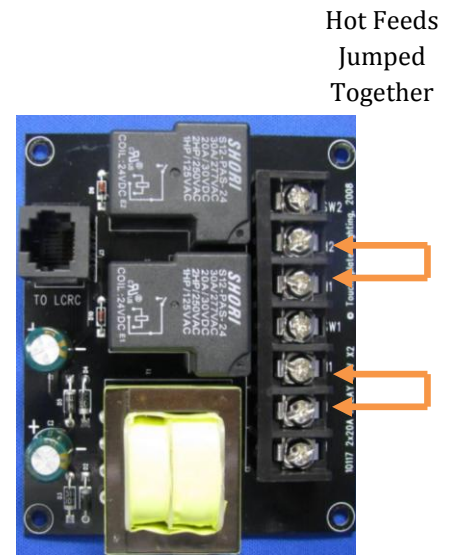

Figure 6.3
Figure 6.3 shows a 10117 Relay Board. The 10117 Relay Board has electronically held relays rated at 20AMPS. There are 2 relays and a transformer per board. The transformer performs the same functions as the TVR-1 / TPS-0120, which supplies power to the relay and the low voltage circuitry. The Relay Board will come from the factory with ‘jumpers’. ‘Jumpers’ allow all two (2) relays to share one (1) hot feed. If more than one (1) hot feed is desired or needed, the jumper(s) can be removed so the new hot feed can be wired.